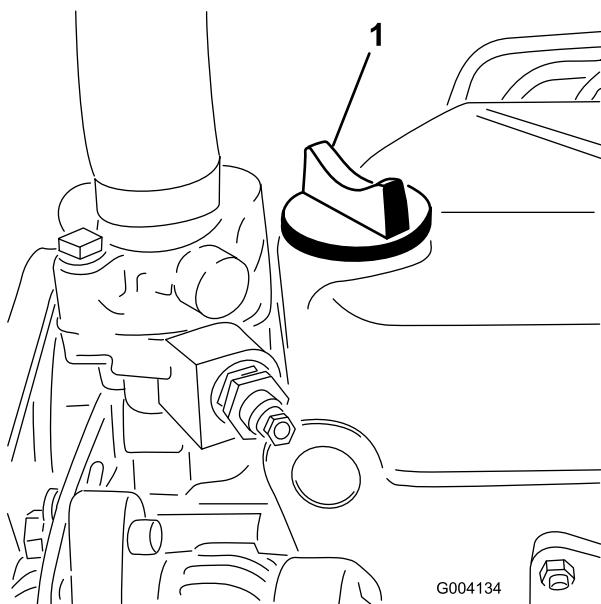

Figure 29
- If the oil level is below the Full mark, remove the fill cap (Figure 29) and add oil until the level reaches the Full mark on the dipstick.